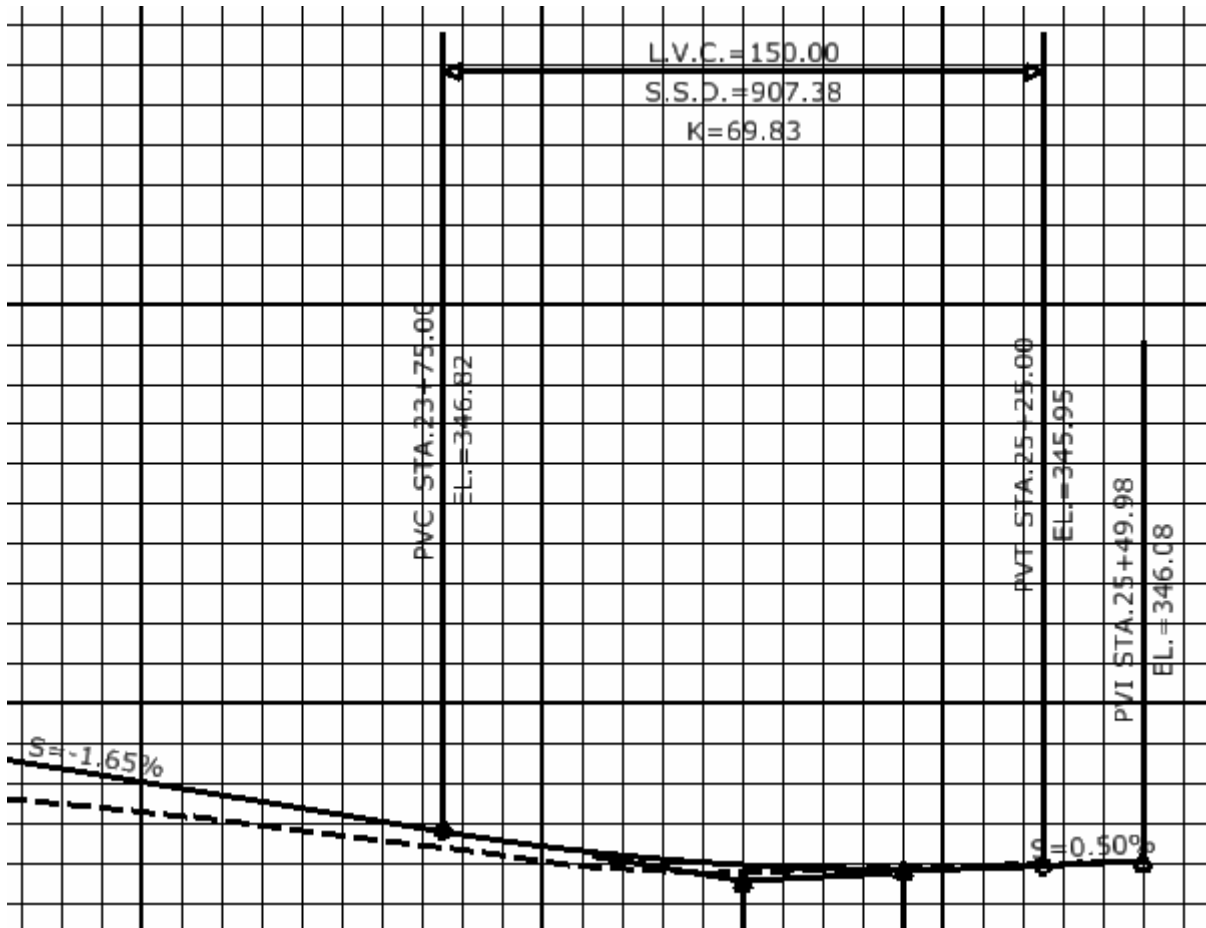

Figure 5-5 MicroStation Screen Shot of InRoads Annotated Vertical Alignment
- C. Click **Apply**. The vertical alignment is annotated. Click **Close**. Figure 5-5 displays an annotated vertical alignment.